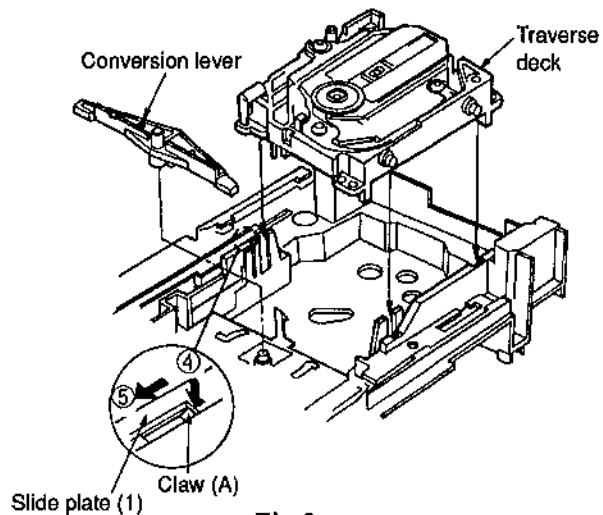
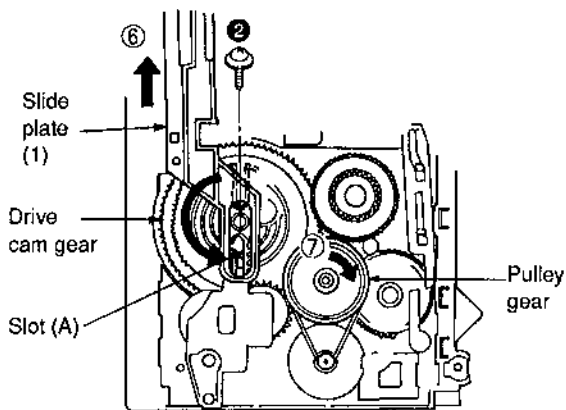

Fig.9
Fig.10
14. Press catch (A) in the direction of arrow ④ and then push slide (1) of the loading unit in the direction of arrow ⑤. (See Fig.9)
15. Install the traverse deck and the conversion lever. (See Fig.9)
16. Push slide plate (1) in the direction of arrow ⑥, so that the catch (A) in Fig.9 engages with slide plate (1).
17. Secure slide plate (1) with a screw ②.
18. Rotate the pulley gear in the direction of arrow ⑦ so that slot (A) of the drive cam gear is in the position shown in Fig.10.